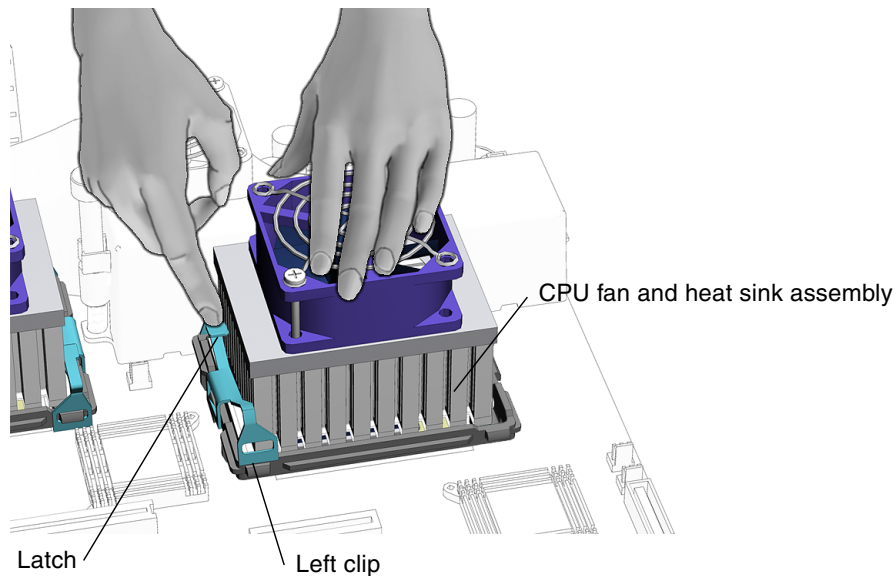

FIGURE 11-12 Holding the CPU Fan and Heat Sink Assembly
b. Push down on the CPU fan and heat sink assembly with one hand (FIGURE 11-12).